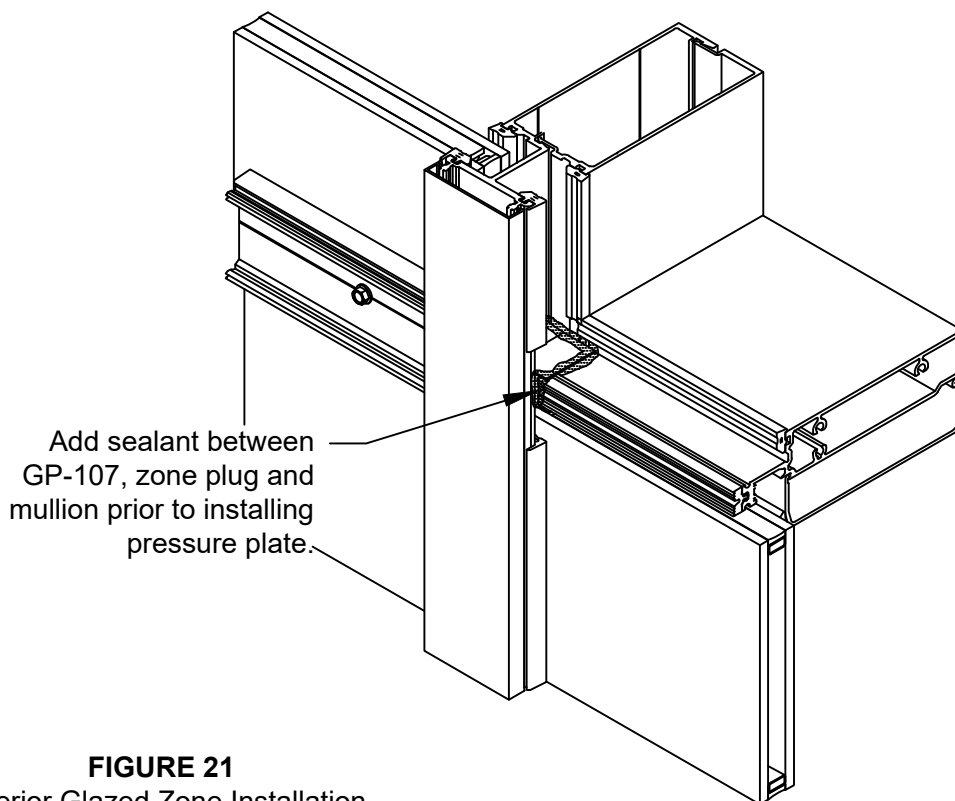

FIGURE 21
- 3.18 Exterior glazed horizontal will require sealant be applied along face of zone plug and horizontal stem prior to installing pressure plate. Since water testing of these area is not possible, special care needs to be taken to seal the zone plug to prevent leaks. See FIGURE 21